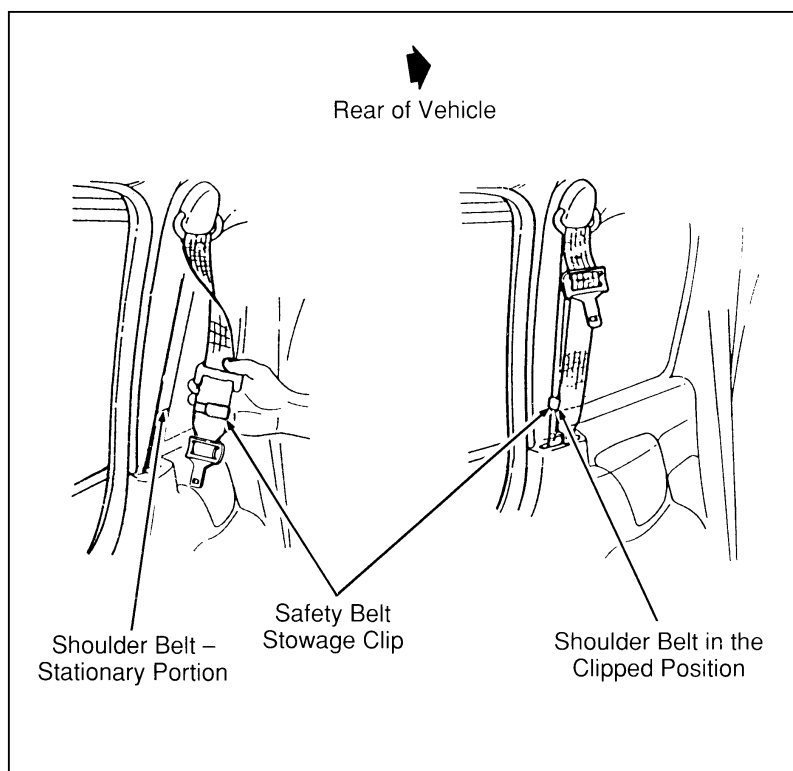

Figure 2: Securing the detachable shoulder belt
2. Using the clip attached to the end of the shoulder belt, clip the end of the belt to the stationary portion of the shoulder belt (see Figure 2). The end of the shoulder belt **must** be clipped in order to keep it from striking anything during vehicle operation.